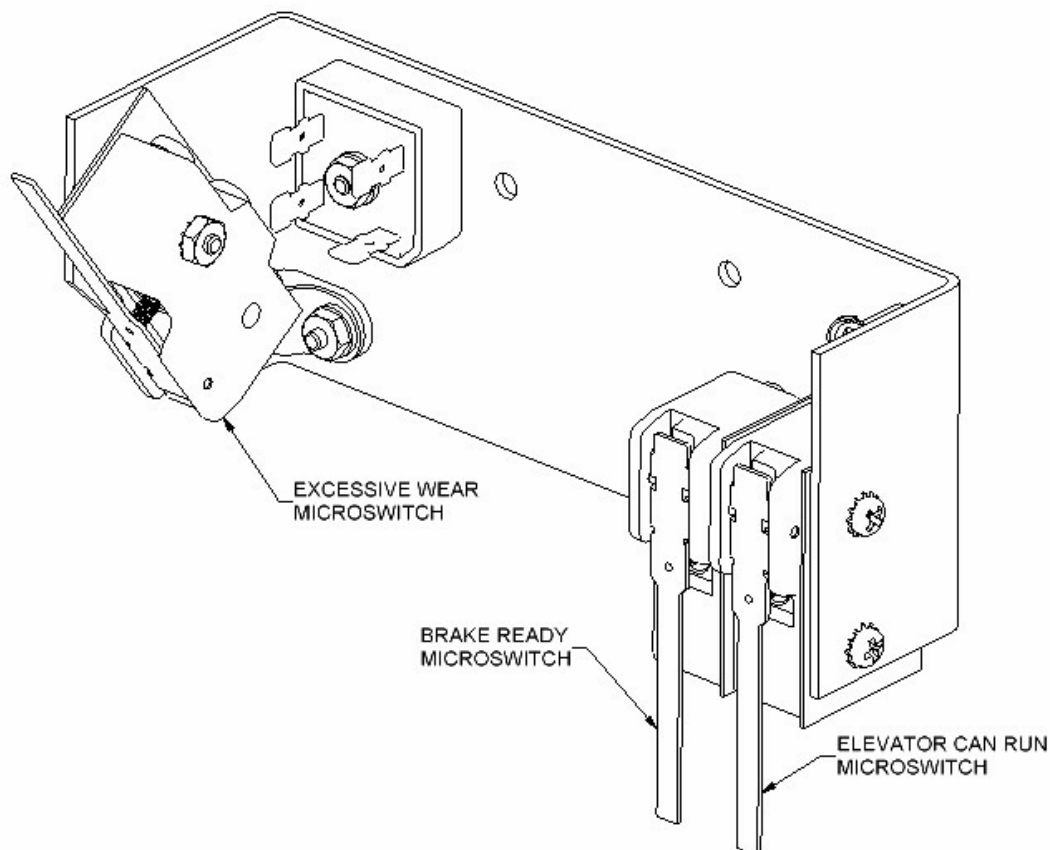

FIGURE 7
- The Brake-Ready microswitch (**Figure 7**) should be adjusted to allow proper engagement of the trigger and latch and to prevent the rotating shaft from bottoming out in the cam slot. There should be approximately 1/32" clearance between the rotating shaft and the bottom of the cam slot when the trigger and latch are engaged. In other words, the pump must run long enough to allow the trigger and latch to properly engage, yet not so long as to push the rotating shaft into the back of the cam slot.